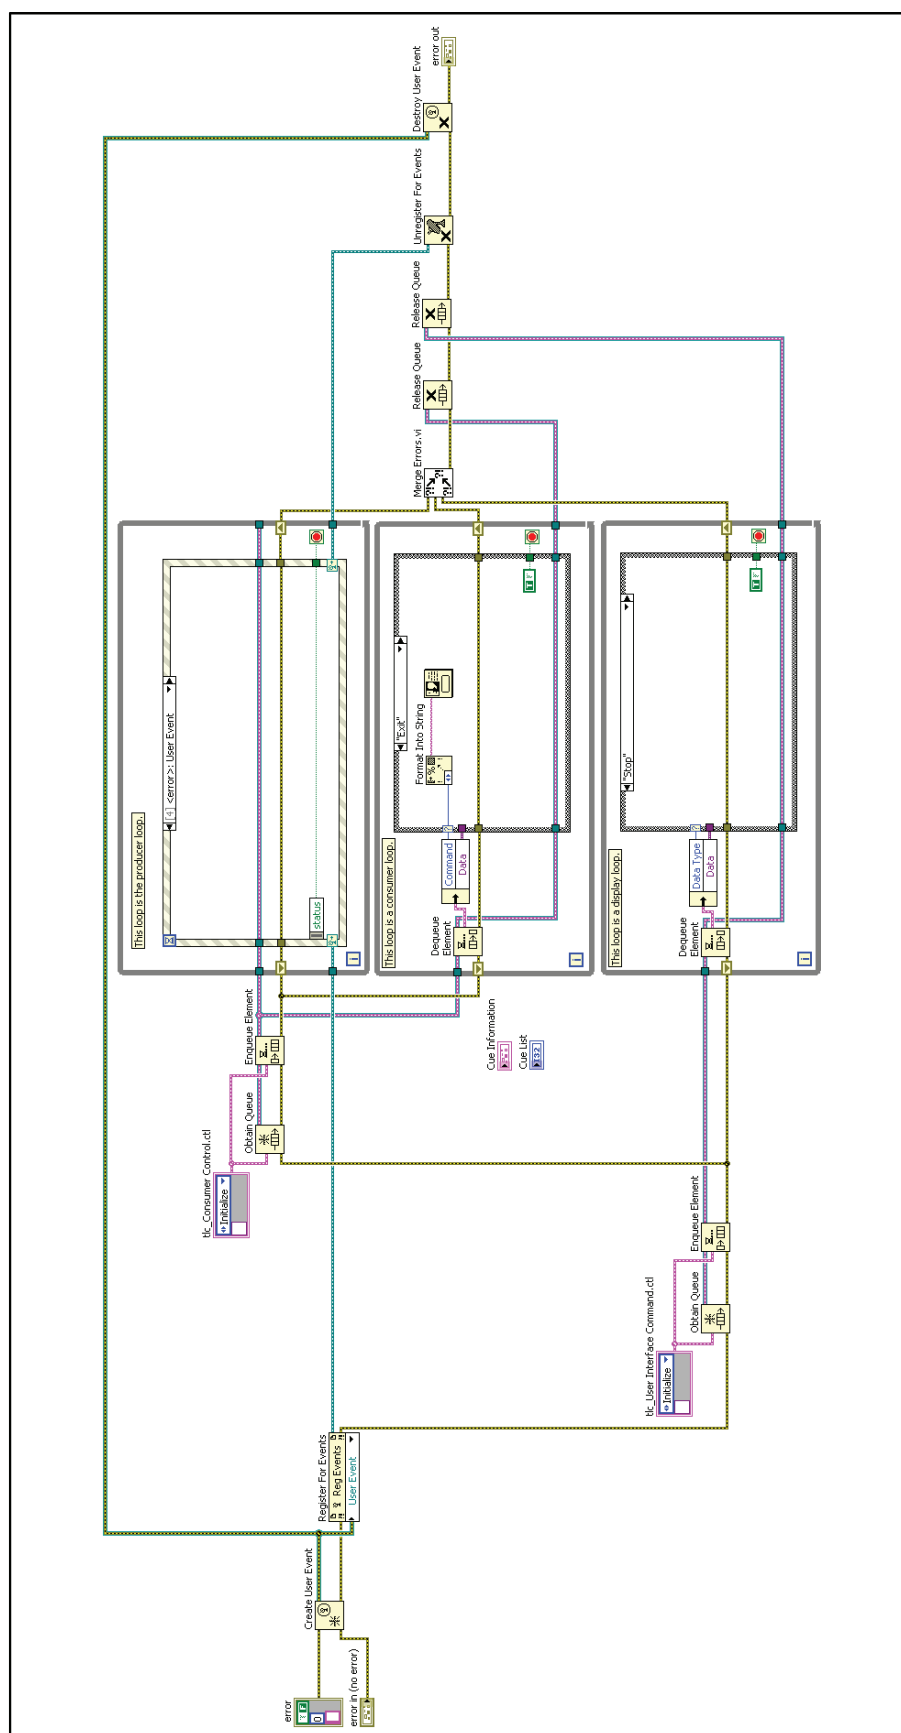

Figure 6-11. Display Loop
2. Add a display loop to the block diagram, as shown in Figure 6-11. To create the initial structure of the display loop, use the following items:
3. Create a queue to control the display loop, as shown in Figure 6-11.